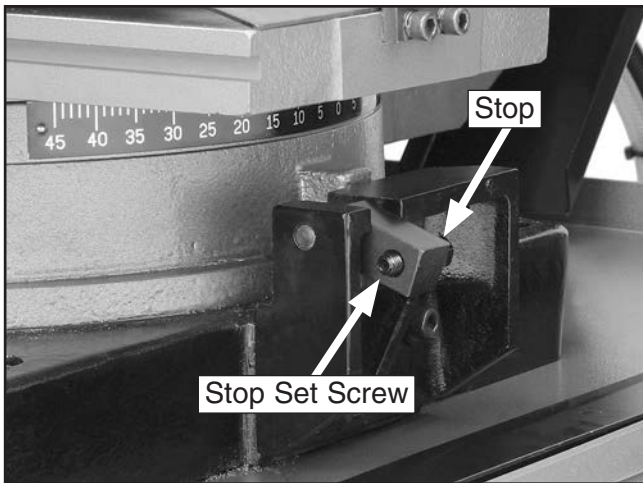

Figure 18. Stop.
2. Flip the stop out as shown in **Figure 18**.